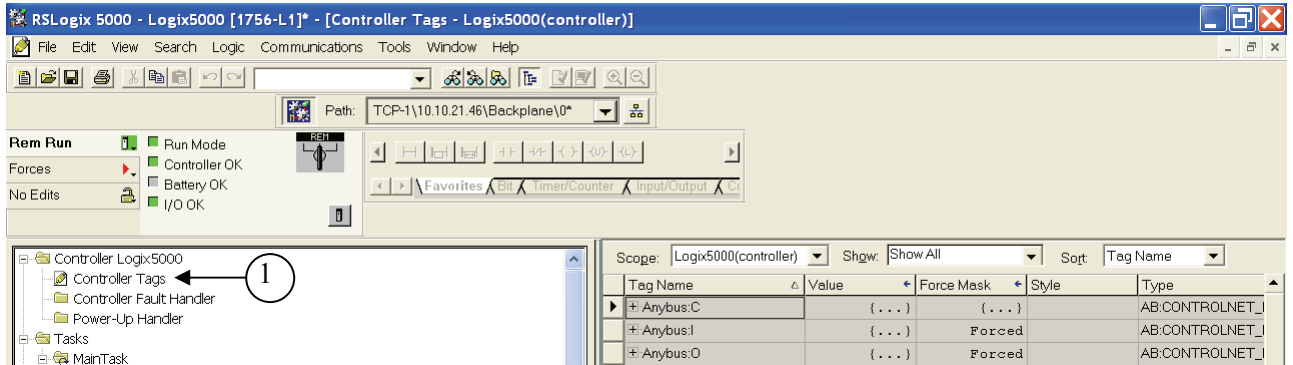

Figure 34 Monitoring the tags.
Firstly go online and switch to “Remote Run” on the PLC. To monitor the tags open the “Controller Tags” window ❶ as seen in Figure 34 below.